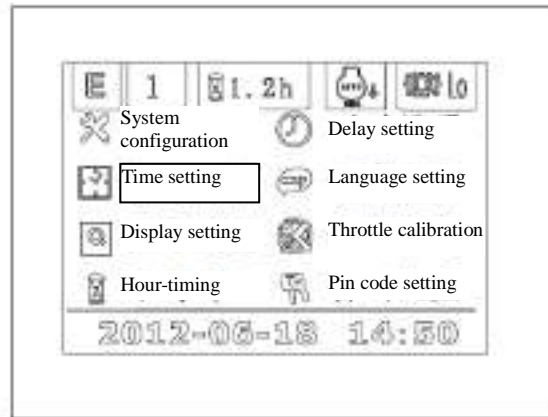

Figure3-59 User setting interface
b) Select time setting via UP and DOWN icons under the user setting interface and then press OK to confirm, the interface is shown in Figure 3-59